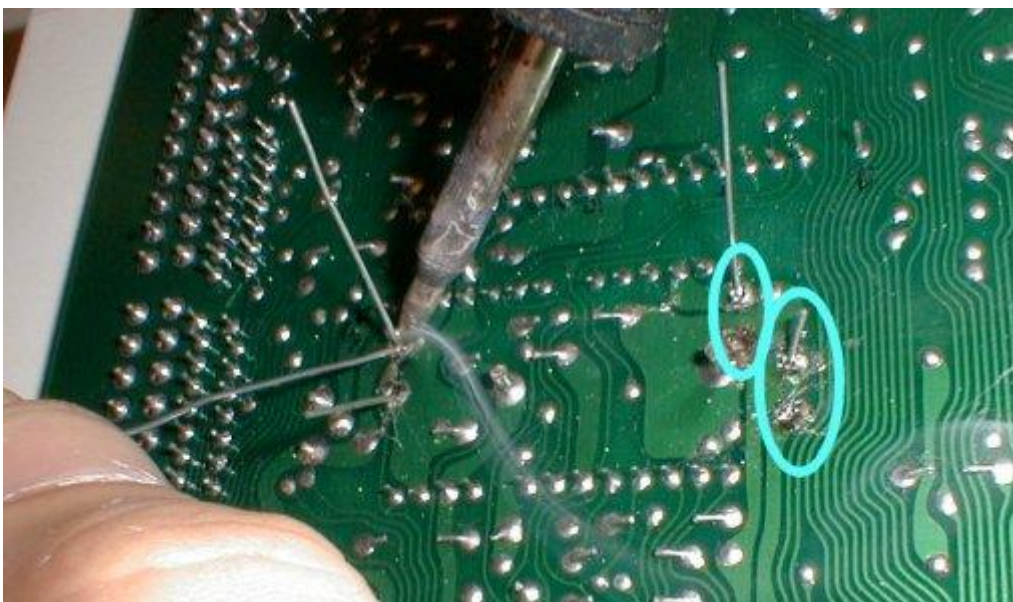

Figure 9
13. **Solder the Capacitors.** Downhill from here on out. Solder each of the capacitors as in **Figure 9**. Be sure to trim off the leads so there isn't a short.